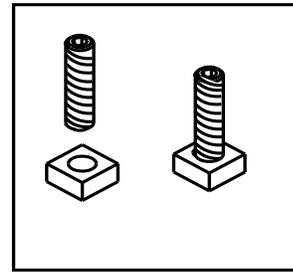

**Figure 8.4** Insert the inner collar adapter to the rear vent flue.
**Figure 8.1** Remove top trivet, if installed. Remove vent pipe adapter and gasket by removing 4 screws as indicated. (If gasket breaks, apply high-temp silicone to bottom of adapter before installing (shown in **Figure 8.4**).